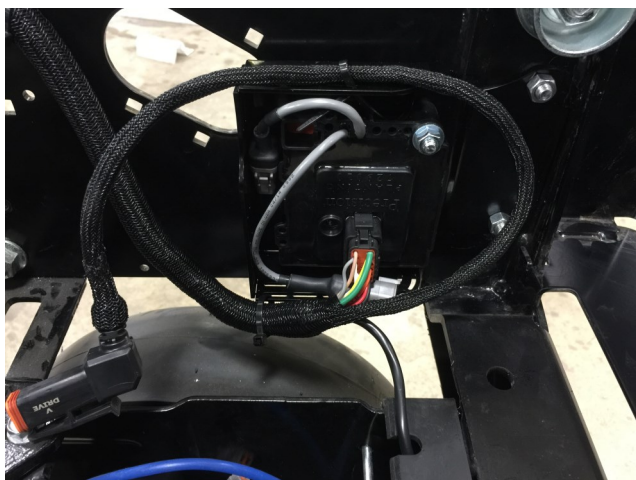

Figure 11a
3. Tie all loose and unused cables to the SRM mounting bracket using the available slots in the bracket (see Figures 11a and 11b).